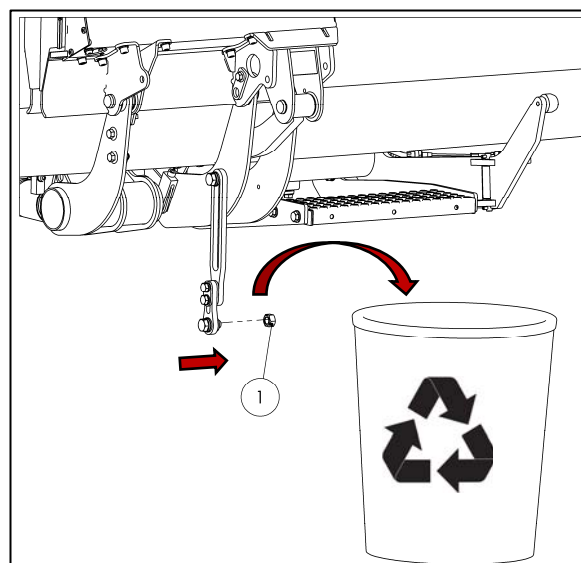

Fig. 57
- Remove and properly dispose of the nut on the transport lock (1) (see Fig. 57).